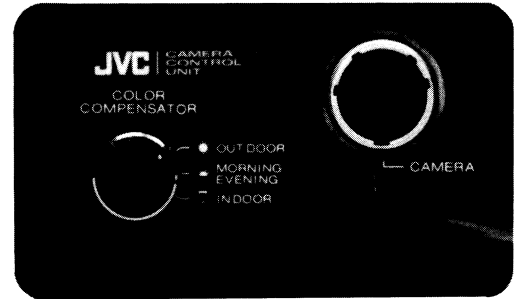

Fig. 1-17
4. Set the CC-4800U Color Temperature selector to correspond to the color temperature of the illumination, as shown in Fig. 1-17.